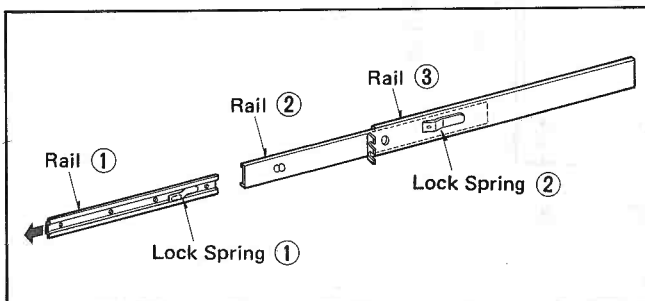

Fig. 2
2. While pressing the lock spring (1), pull out the rails (1). (Fig. 2)